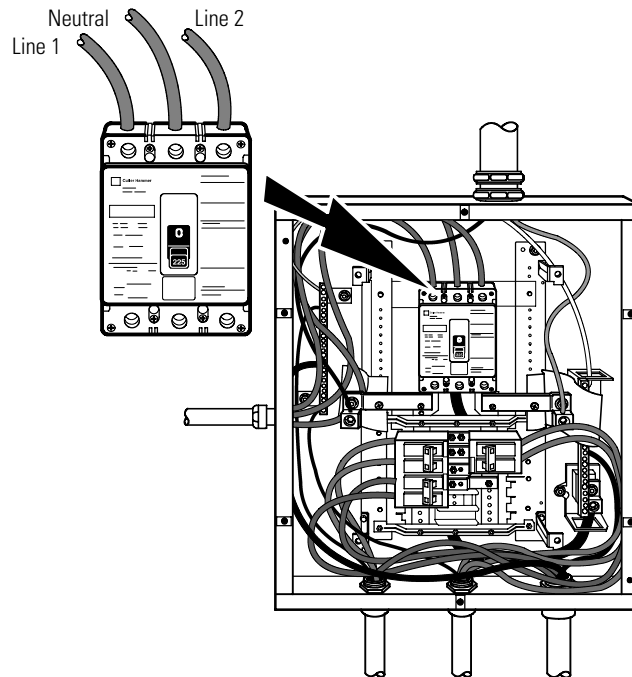

Figure 13. Parallel AC Input Wiring
16. Wire the AC input to the bypass breaker (see Figure 13).